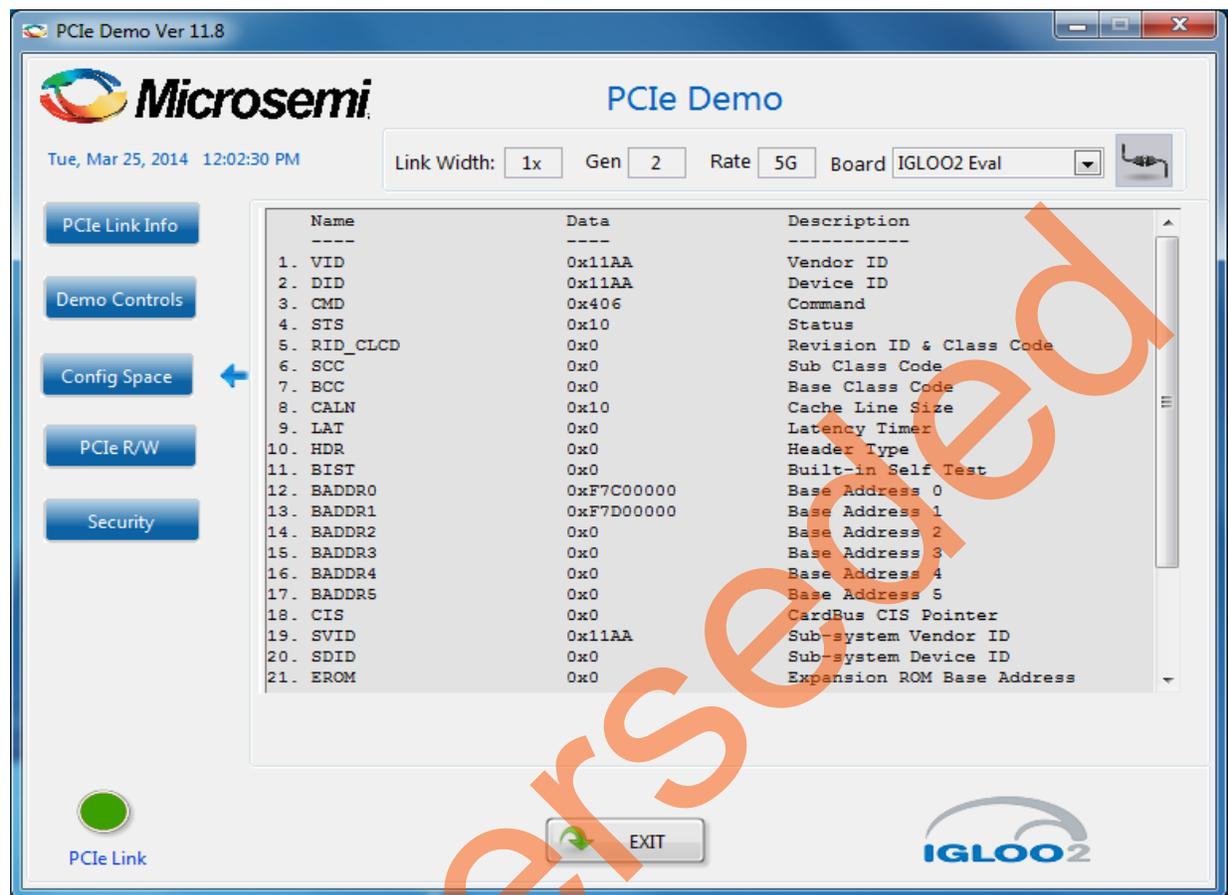

Figure 22 • Configuration Space
12. Click **Config Space** to read details about the PCIe configuration space. Figure 22 shows the PCIe configuration space.